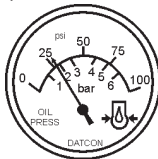

Figure 44. Oil Pressure Gauge
8. The engine oil pressure gauge (Figure 44) will indicate the oil pressure of the engine. Under normal operating conditions the oil pressure is approximately 42 to 71 psi. (290~490 kPa).